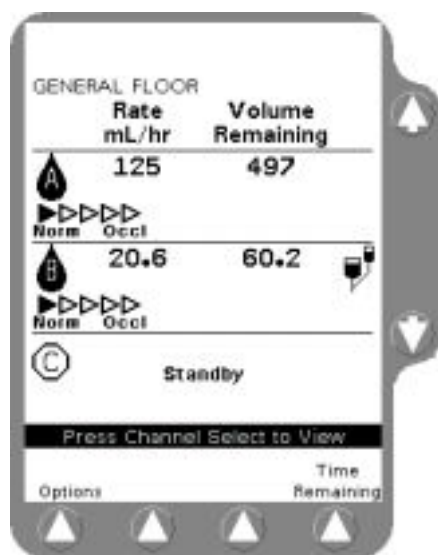

Figure 4-4 Flow Check Main Display
**Note:** When Flow Check is selected from the Options Menu, the status is displayed on the Main Display for 10 seconds (Figure 4-4).